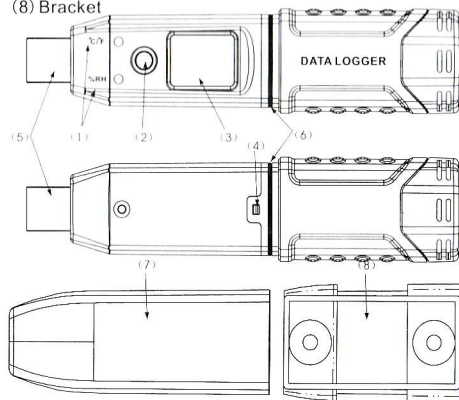

Fig 1
1. Structure of the device (Fig 1)